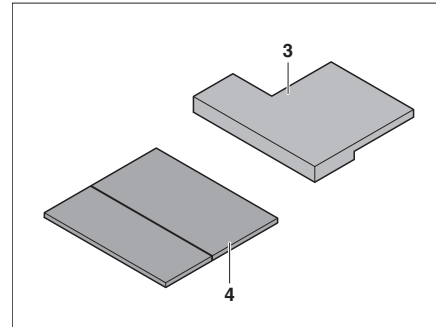

Fig. 185 Additional cushion
- Lay the guest bed foundation (Fig. 185,4) on the table. Lay the front edge of the guest bed foundation directly against the driver's seat.